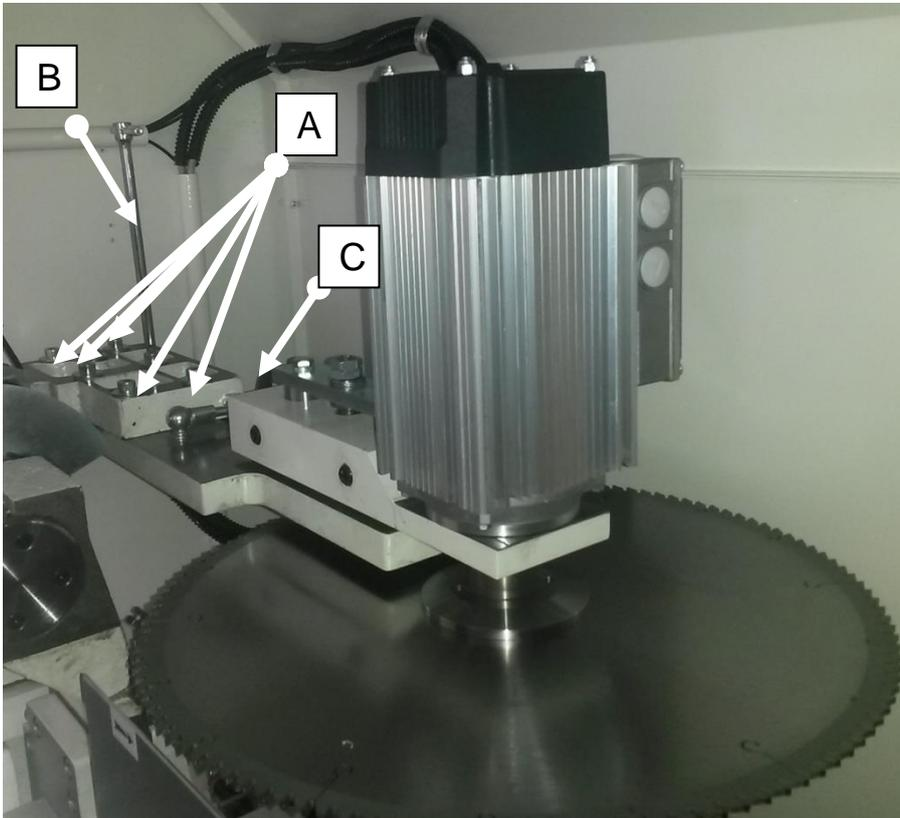

FIG.10
- Loosen the six screws A (Fig.10) with spanner B (Fig.10)
- Turn handle C (Fig.10) to go to the required position
- Lock screws A (Fig.10) with spanner B (Fig.10).